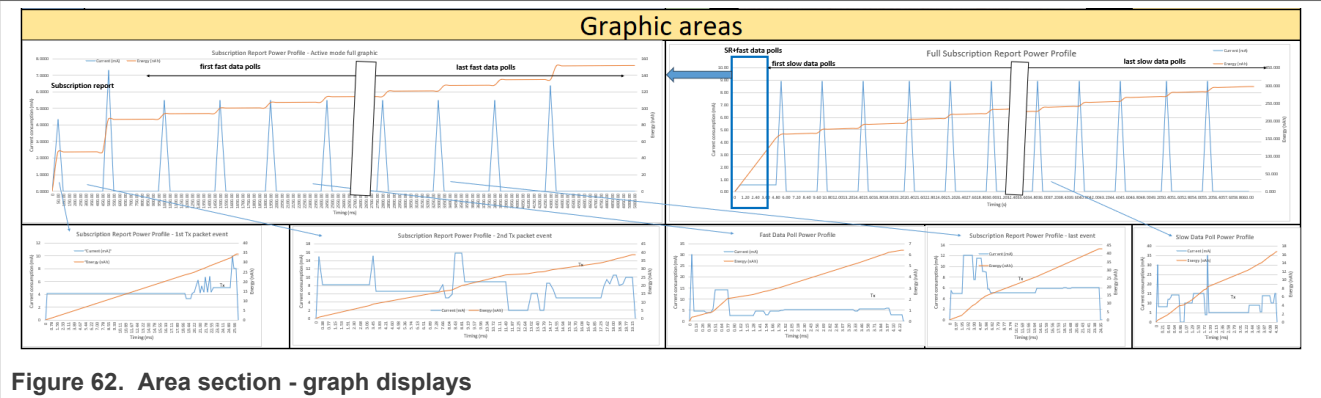

Figure 62. Area section - graph displays
- Full subscription report including fast and slow data poll (Idle mode duration) - see Figure 62, right-side graph
- Part of the SR including fast data poll (Active mode threshold duration) - see Figure 62, left-side graph